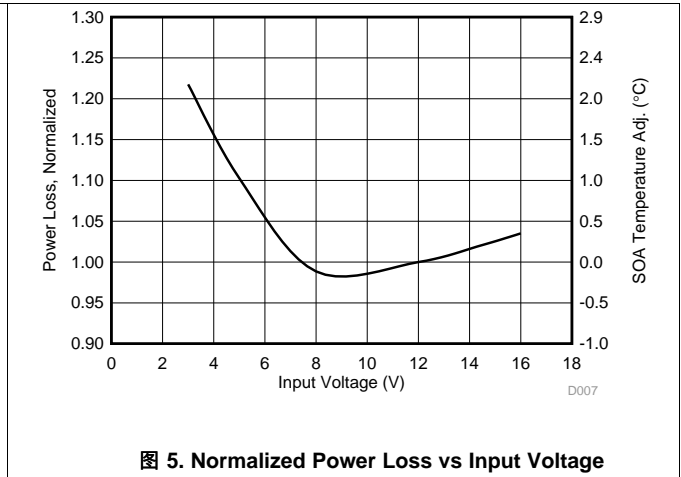

图 5. Normalized Power Loss vs Input Voltage
- Normalized power loss for input voltage  $\approx 1.1$  (图 5)
- SOA adjustment for input voltage  $\approx 1.0^\circ\text{C}$  (图 5)